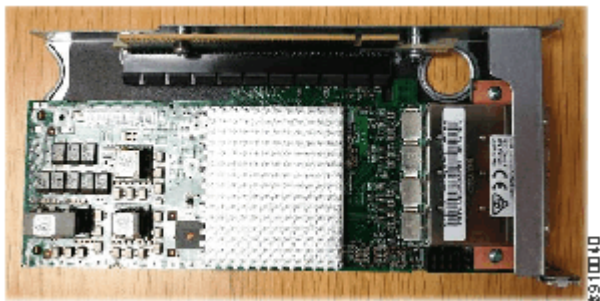

Figure 70. Alignment of the network adapter
10. Align the replacement adapter with the PCIe socket of the riser and press the adapter into place. Ensure that the adapter is fully seated in the riser, as shown in Figure 70 on page 125.